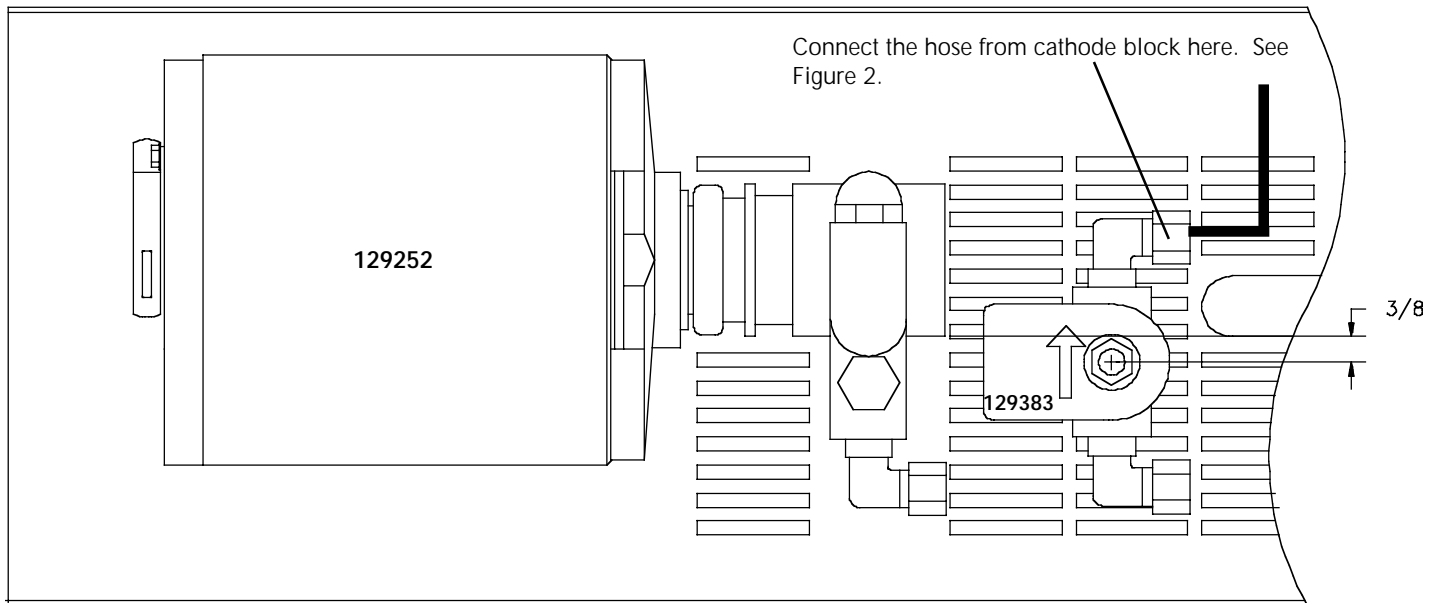

Figure 3 129252 and 129383 Assemblies Installed - View From Rear Top of Power Supply
6. Reconnect the remaining hose from the cathode block to the valve assembly. See Figure 3. Tighten fittings to 75-85 lbf-in (86-98 kgf-cm) of torque.